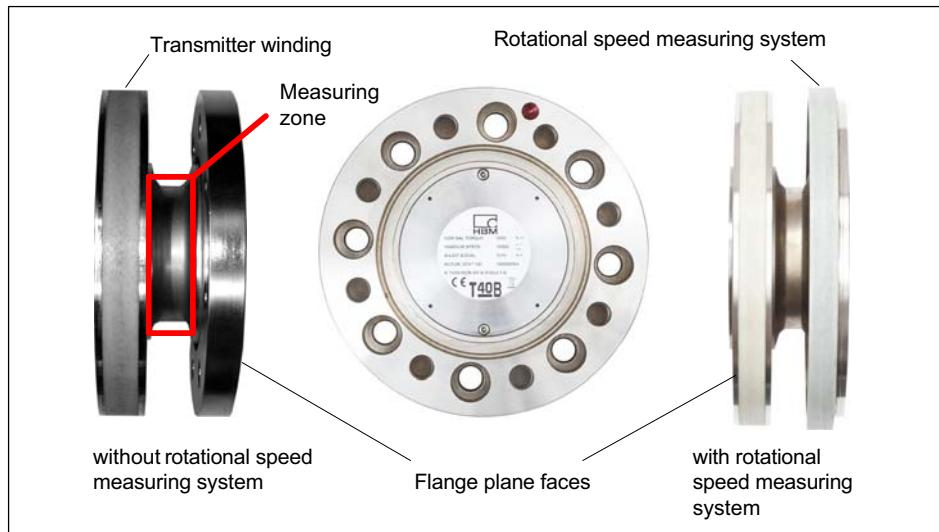

Fig. 5.1 Bolted rotor connection
Make sure during installation that you do not damage the measuring zone marked in Fig. 5.1 by using it to support tools, or knocking tools against it when tightening screws, for example. This can damage the transducer and produce measurement errors, or even destroy the transducer.
2. For the bolted rotor connection (see Fig. 5.1), use six or eight DIN EN ISO 4762 hexagon socket screws of the property class stated in Tab. 5.1, in a suitable length (dependent on the connection geometry, see Tab. 5.1 on page 29).